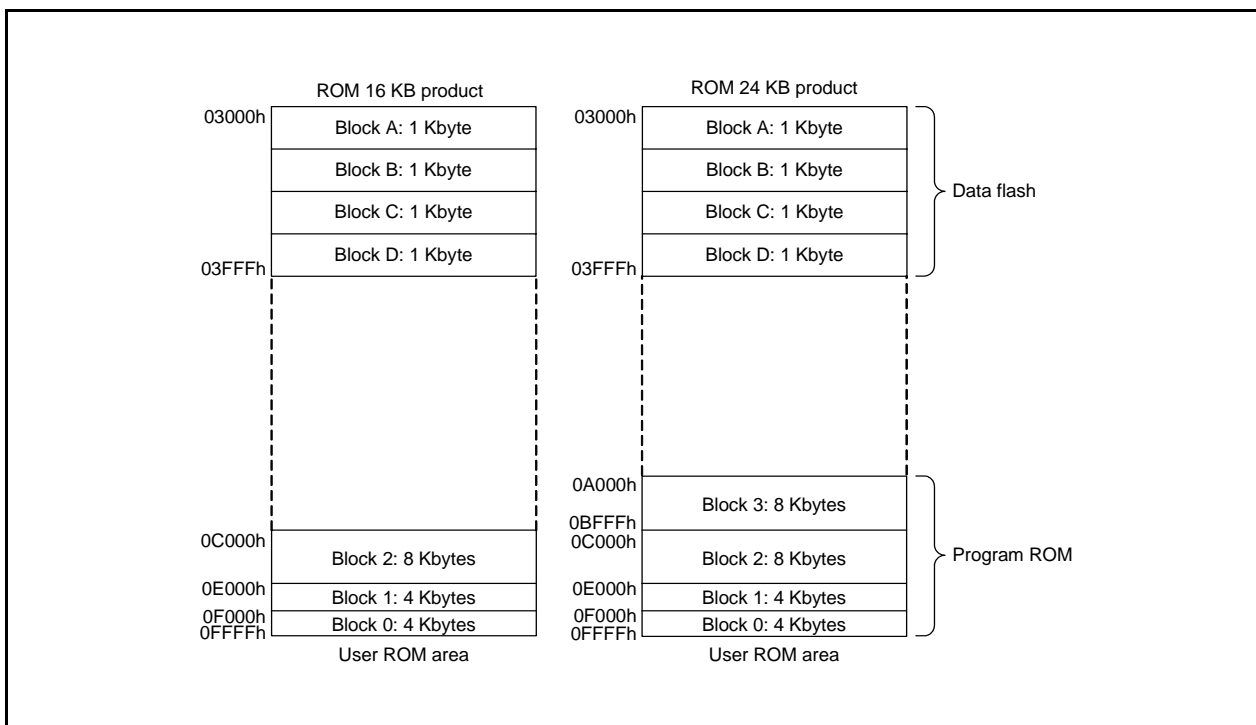

Figure 32.1 R8C/35M Group Flash Memory Block Diagram (1)
- The number of blocks and block division vary with the MCU. Refer to **Figures 32.1 and 32.2 R8C/35M Group Flash Memory Block Diagrams** for details.
Figures 32.1 and 32.2 show R8C/35M Group Flash Memory Block Diagrams.